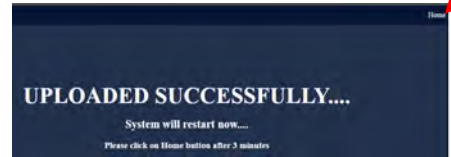

Figure 12
12. Once the file is loaded Uploaded Successfully is displayed (see Figure 12).
13. Wait three (3) minutes for the communication board to reboot and click Home (see Figure 12).